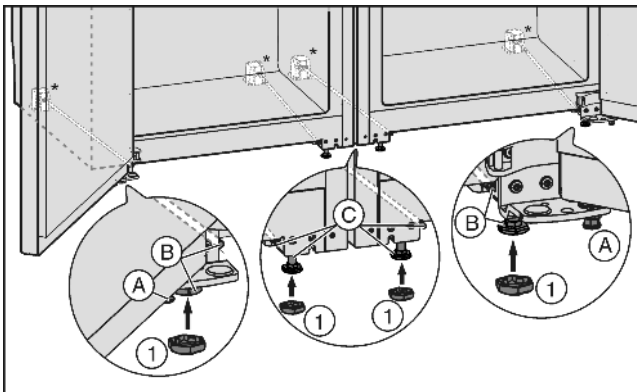

Fig. 4
- If necessary, completely retract the height-adjustable feet Fig. 4 (A) at the front of both appliances so that they are not touching the floor.
- Place the caps Fig. 4 (1) onto the four front height-adjustable feet.
- ▶ Retract the centre height-adjustable feet *Fig. 4 (C)* so they are not in contact with the floor.
- ▶ Level the combination using the outer height-adjustable feet *Fig. 4 (B)*.
- ▶ Lower the centre height-adjustable feet *Fig. 4 (C)* until they touch the floor.
- ▶ Then support the door: Extend the height-adjustable feet *Fig. 4 (A)* at the turn hinge until they are resting on the floor, then turn them further by 90°.